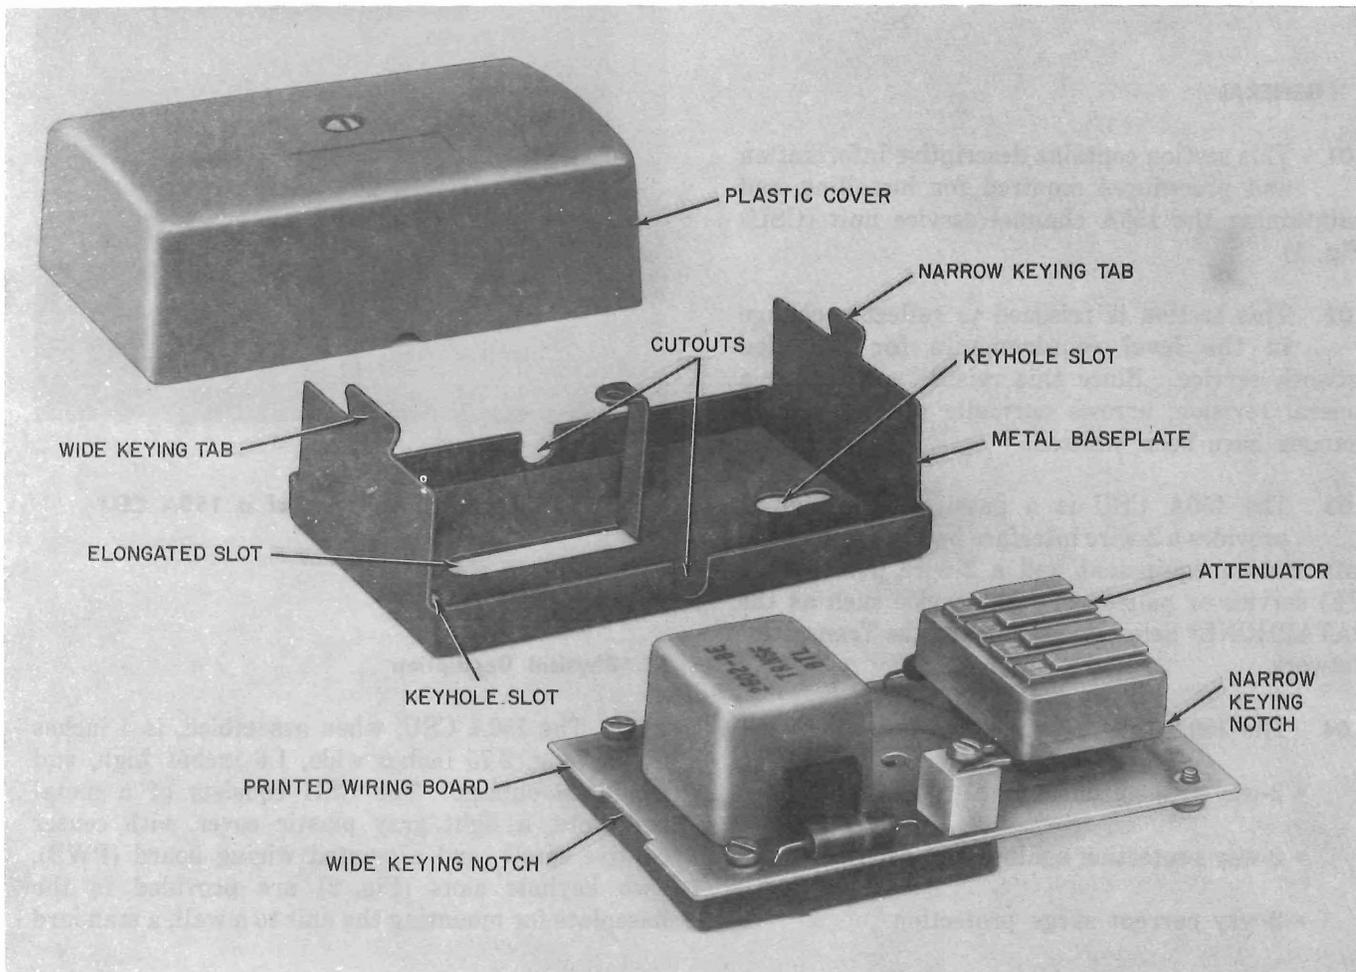
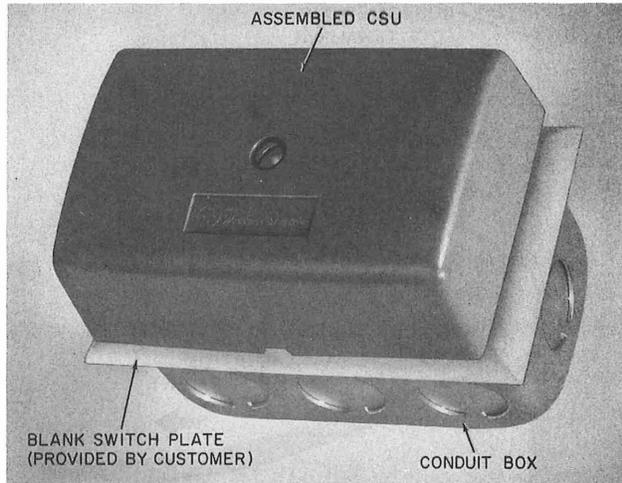

Fig. 2—Disassembled 150A CSU
Fig. 3—CSU Mounted on Standard Conduit Box
2.01 The 150A CSU, when assembled, is 4 inches long, 2.75 inches wide, 1.6 inches high, and weighs 6 ounces. The CSU consists of a metal baseplate, a light gray plastic cover with center captive screw, and a printed wiring board (PWB). Two keyhole slots (Fig. 2) are provided in the baseplate for mounting the unit to a wall, a standard
conduit box (Fig. 3), or other flat surface. The light gray plastic cover of the CSU is made of flame retardant plastic and should not be interchanged with other covers (ivory or light olive gray) which may not have flame retardant characteristics.
2.02 Two cutouts (Fig. 2) are provided in the sides of the baseplate to accommodate the telephone line and the station equipment line. Although not shown in Fig. 2, metal tabs and slots are provided in the baseplate next to these cutouts. These metal tabs, together with the plastic cover, provide a means to secure T- or L-type strain reliefs. The slots can be used to secure J-type strain reliefs. When the unit is mounted on a conduit box, both the telephone line and the station equipment line may be fed through the elongated slot (Fig. 2) provided in the bottom of the baseplate. Also, as shown in Fig. 3, a blank switch plate may
2.05 The PWB is secured to the baseplate by mating two keying notches (one in each end) with the two keying tabs on the baseplate (Fig. 2). The wide keying notch in the PWB mates with the wide tab on the baseplate; therefore, the PWB cannot be installed in the baseplate rotated 180 degrees end-to-end. This ensures that proper lead dress will be maintained when the PWB is inserted in the baseplate.
- (3) If a conduit box is used, label the T, R, CT, and CR leads so they can be identified after the CSU baseplate and PWB have been installed. If a conduit box is *not* used, proceed to Step (5).
- (4) Route the wiring from the telephone line and the customer equipment through the elongated slot (Fig. 2) in the baseplate.
- (5) Position the baseplate against the mounting surface at the correct location for the CSU. Secure the baseplate in place with two screws through the two keyhole slots provided (Fig. 2). (See 2.03 concerning screws to be used.)
Note: If a conduit box is *not* used, route the D station wire through the appropriate cutout (Fig. 2) in the baseplate.